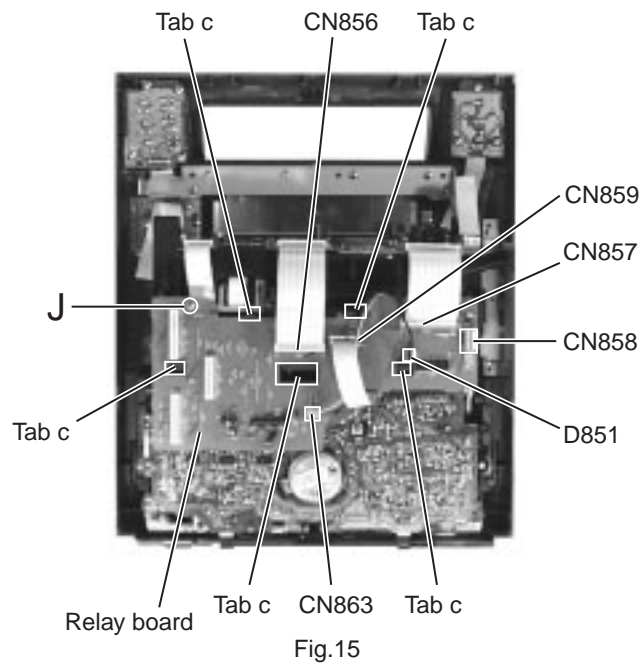

Fig.15
■ **Removing the Relay Board** (See Fig.15)